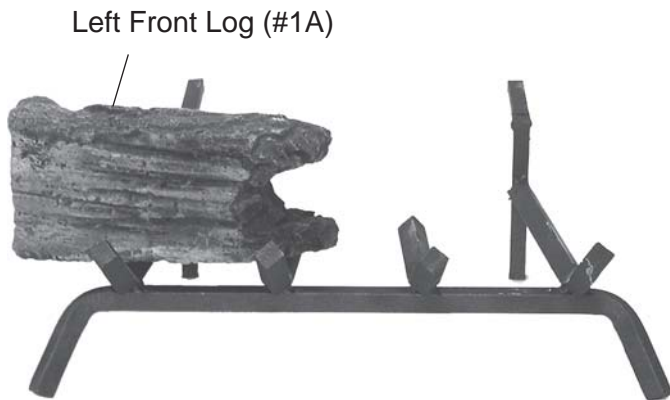

Figure 93 - Placing Left Front Log #1A on Grate
2. Place Left Front Log #1A on front left of grate. See Figure 93.